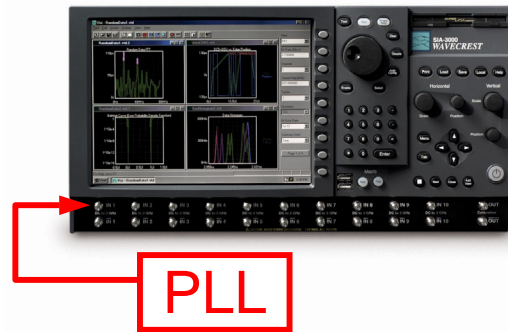

Fig. 1 SIA-3000 with signal source.
As an example, we perform Advanced PLL measurements on a PLL clock output. The experimental set up is shown in Fig. 1. For this example, the PLL is has a reference clock of 10 MHz and an output clock of 1.2525 GHz.
2. Connect the signal to a measurement channel (Fig. 1). Set the measurement channel in VISI by going to the **Acquire Option** menu and choosing **Channel**.